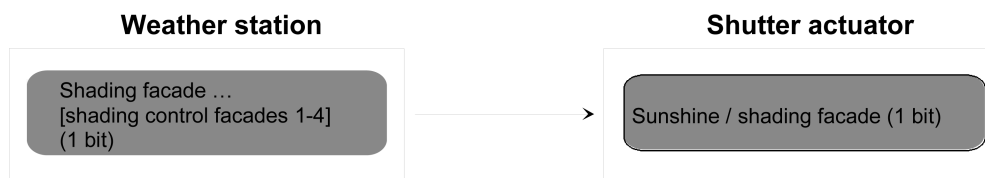

Figure 28: Programming of the communication objects for application example II
- fixed positions setting.(figure 28)